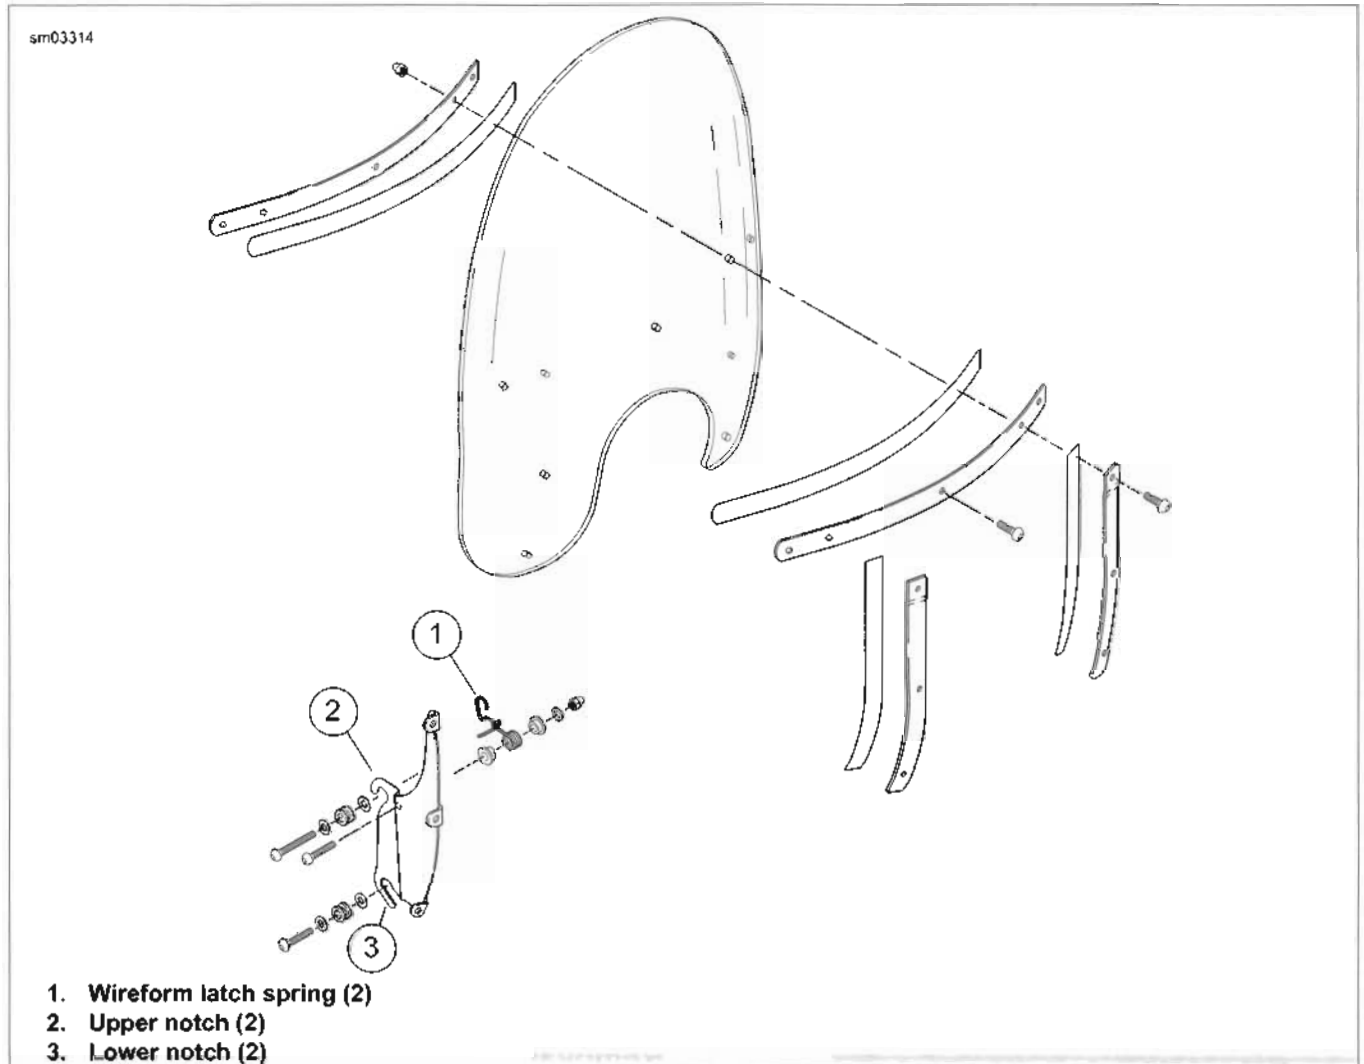

Figure 2-139. Windshield: FLSTC
1. See Figure 2-139. Use a finger to raise the wireform latch springs on each side of the windshield.
2. Standing at the front of the vehicle, gently pull the top of the windshield until the upper notches (2) on the side brackets are free of the upper grommets.
3. Carefully raise the windshield until the lower notches (3) in the side brackets are free of the lower grommets.
1. See Figure 2-139. Lower the windshield into position until the lower notches (3) are seated on the lower grommets.
2. Standing at the front of the vehicle, gently push the top of the windshield toward the rear until the upper notches (2) fully engage the upper grommets.
3. Push down on the wireform latch springs (1) so that they overhang the rubber grommets. If some adjustment is necessary, loosen the retaining bolts and rotate the latch springs into the proper position.